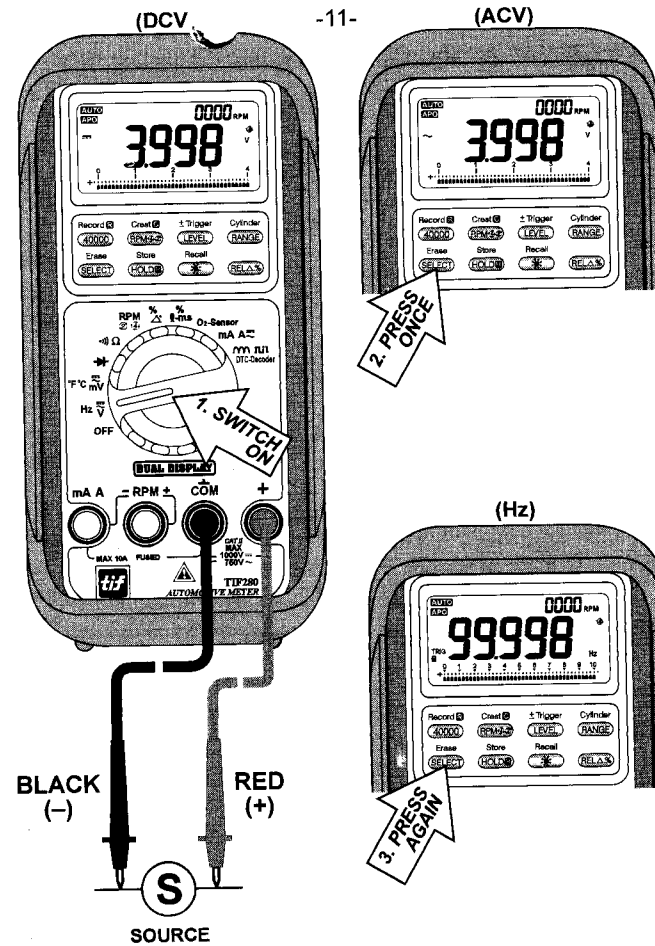

FIG 3. DCV, ACV, Hz FUNCTIONS
- 4) Connect test leads to voltage source and observe the digital display. See **FIG 3**